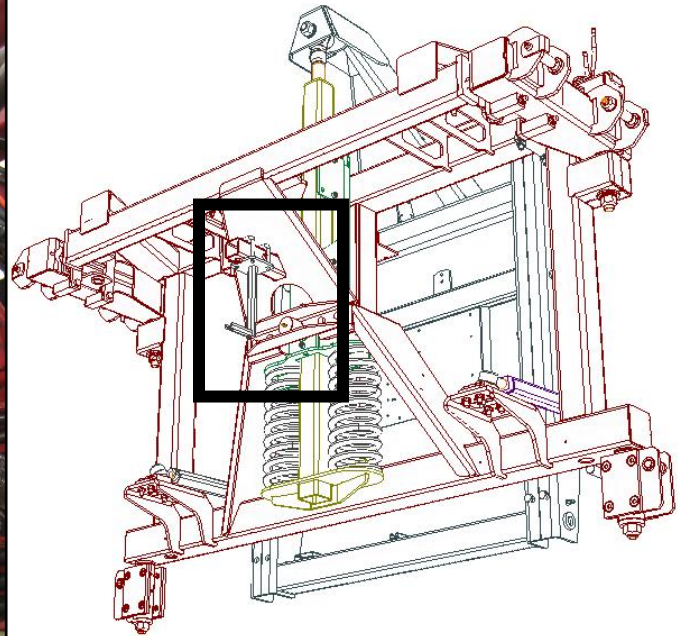

Figure 13: Main Lift Sensor Mounted to the HPZ/HAZ Center Part
1. Mount the ML bracket (Item B11) as illustrated in Figure 13. Ensure sensor cable is routed properly and securely fastened.